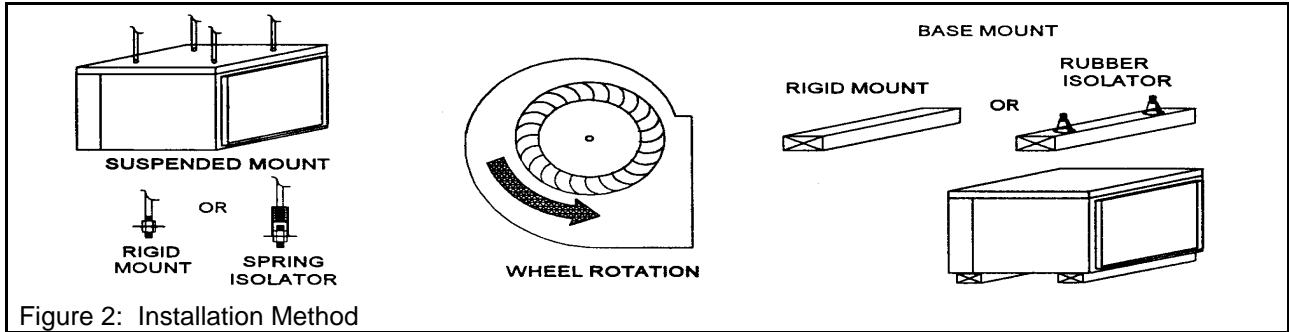

Figure 2: Installation Method
- 1 After electrical connections are completed, energize the unit momentarily and ensure that the rotation of the wheel is correct (see Figure 2). Apply full power.